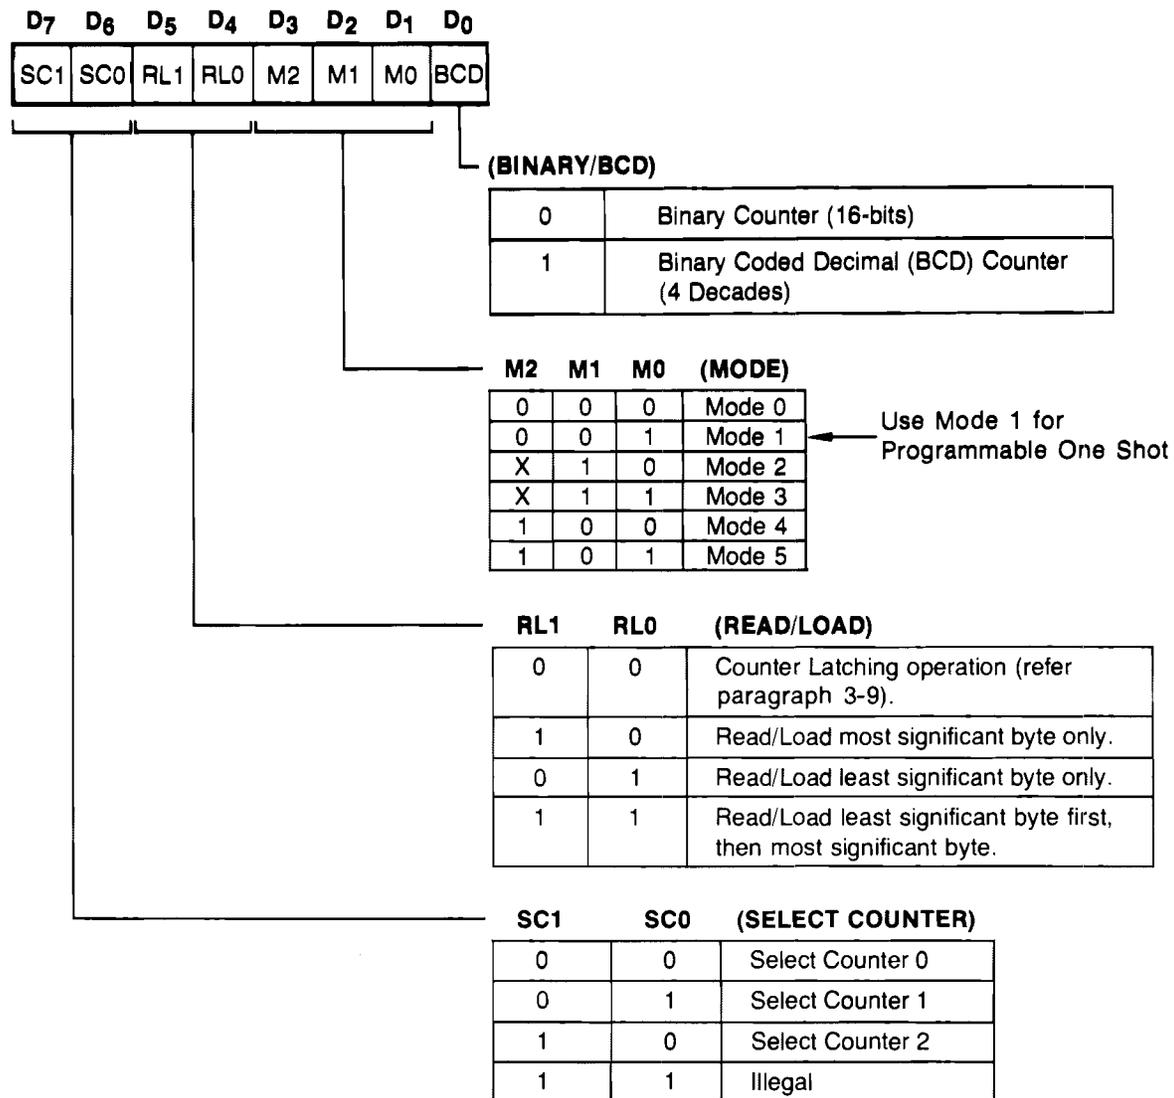

Figure 3-1. PIT Control Word Format
- a. A mode control register word (Figure 3-1) is written to the control register for each individual counter.
The mode control word (Figure 3-1) does the following:
The count mode selected in the control word controls the counter output. As shown in Figure 3-1, the PIT chip can operate in any of six modes:
- a. Write a mode control word for counter 0 to 00D6. Note that all mode control words are written to 00D6, since the mode control word must specify which counter is being programmed. (Refer to Figure 3-1.)